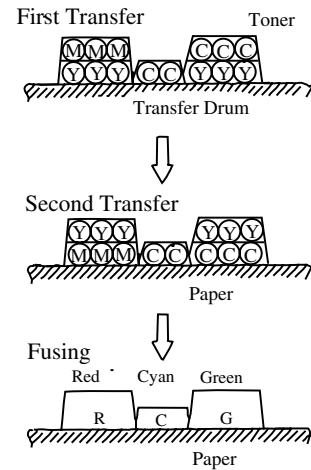

Fig. 4-4
- The toner image is developed by cyan, yellow, and magenta toner. Combinations of toner, moved to the transfer drum, develops different colors (see Fig. 4-4).
- The toner image formed on the transfer drum is transferred to paper (see Fig. 4-4).
- The toner is fused to the paper by the fuser unit. This process fixes the toner image onto the paper (see Fig. 4-4).